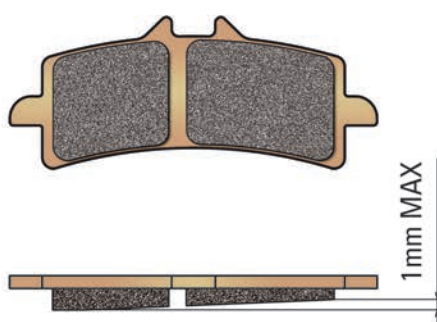

Fig. 7
- Pad radial wear difference must not exceed 1mm MAX (see fig. 7). Defective or excessively worn pads must be changed.